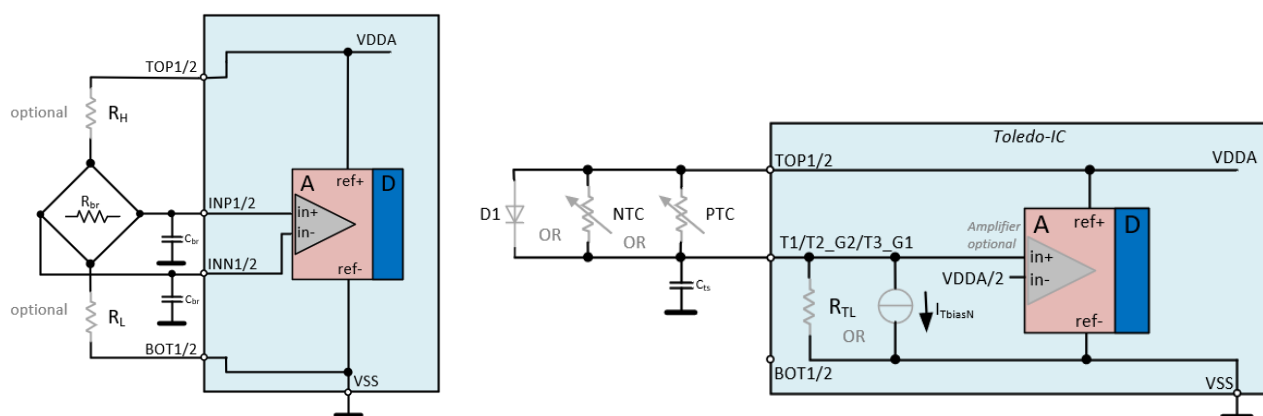

Figure 173. Cbr and Cts Capacitors
- Cbr [nF] and Cts [nF] fields: enter the values to the fields within the allowed range of 0nF to 2nF, the capacitors are displayed in Figure 173.